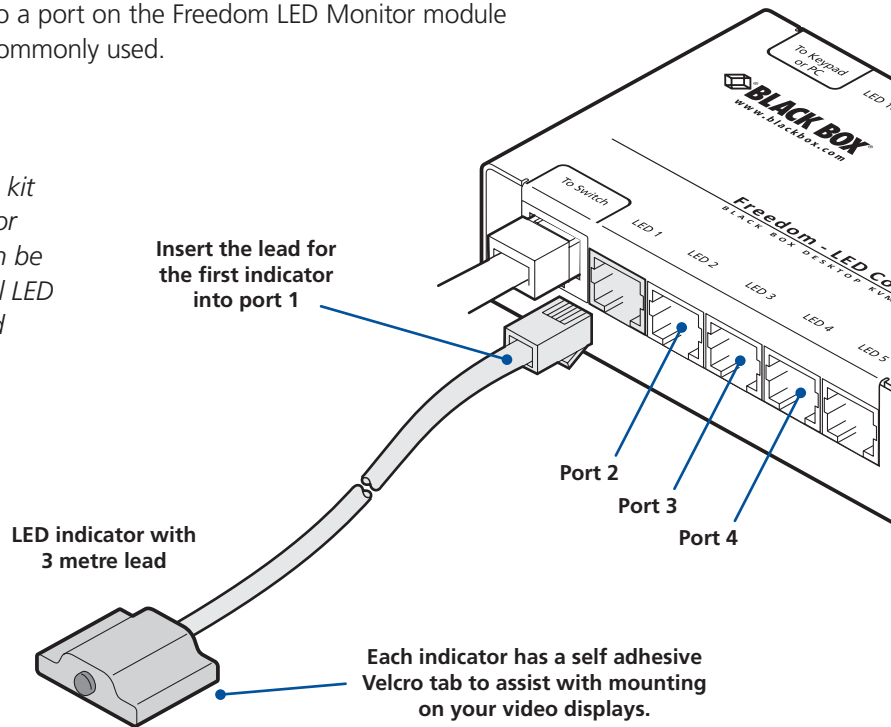

Figure 3-8. Linking LED indicators to the Freedom LED Monitor module.
- Link each LED indicator to a port on the Freedom LED Monitor module - ports 1 to 4 are most commonly used. See Figure 3-8.